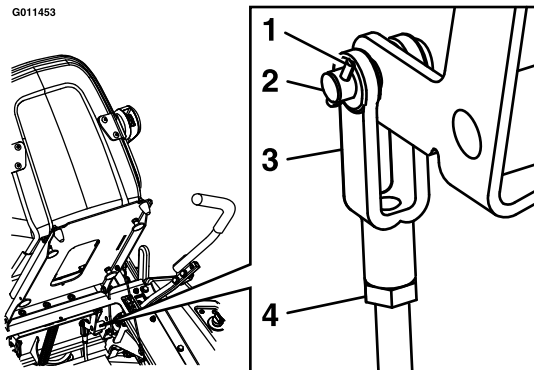

Figure 26
7. If adjustment is necessary, loosen the jam nut from the yoke on the side that needs adjustment. Remove the hairpin and clevis pin (see Figure 26).